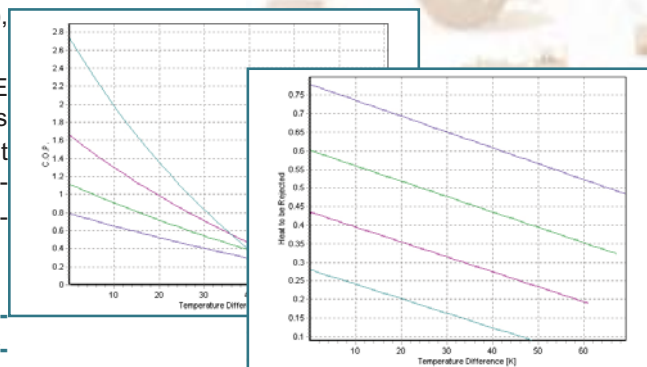

Figure 5.4.4 $COP(\Delta T)$ and $Q_{hot}(\Delta T)$ at $I=(1.0, 0.8, 0.6, 0.4) I_{max}$
- ◆ $Q_{hot}(\Delta T)$. The heat Q_{hot} to be rejected from the TE sub-mount hot side versus its temperature difference ΔT at the electric current $I=(1, 0.8, 0.6, 0.4)I_{max}$. The plot assists in estimating the heat to be sunk from the sub-mount at the needed I and ΔT . (Fig. 5.4.4).